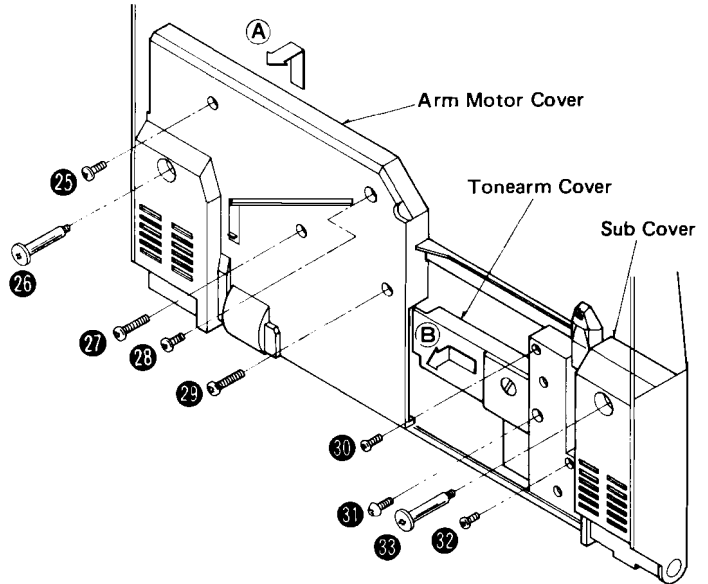

Fig. 11
2. Remove the 5 setscrews (Fig. 11: 25 ~ 29), and the arm motor cover can be removed in the direction of the arrow A.
2. Remove the 3 setscrews (Fig. 11: 30 ~ 32), and the tonearm cover can be removed in the direction of the arrow B.
3. Remove the sub cover setscrew (Fig. 11: 33) and the sub cover.